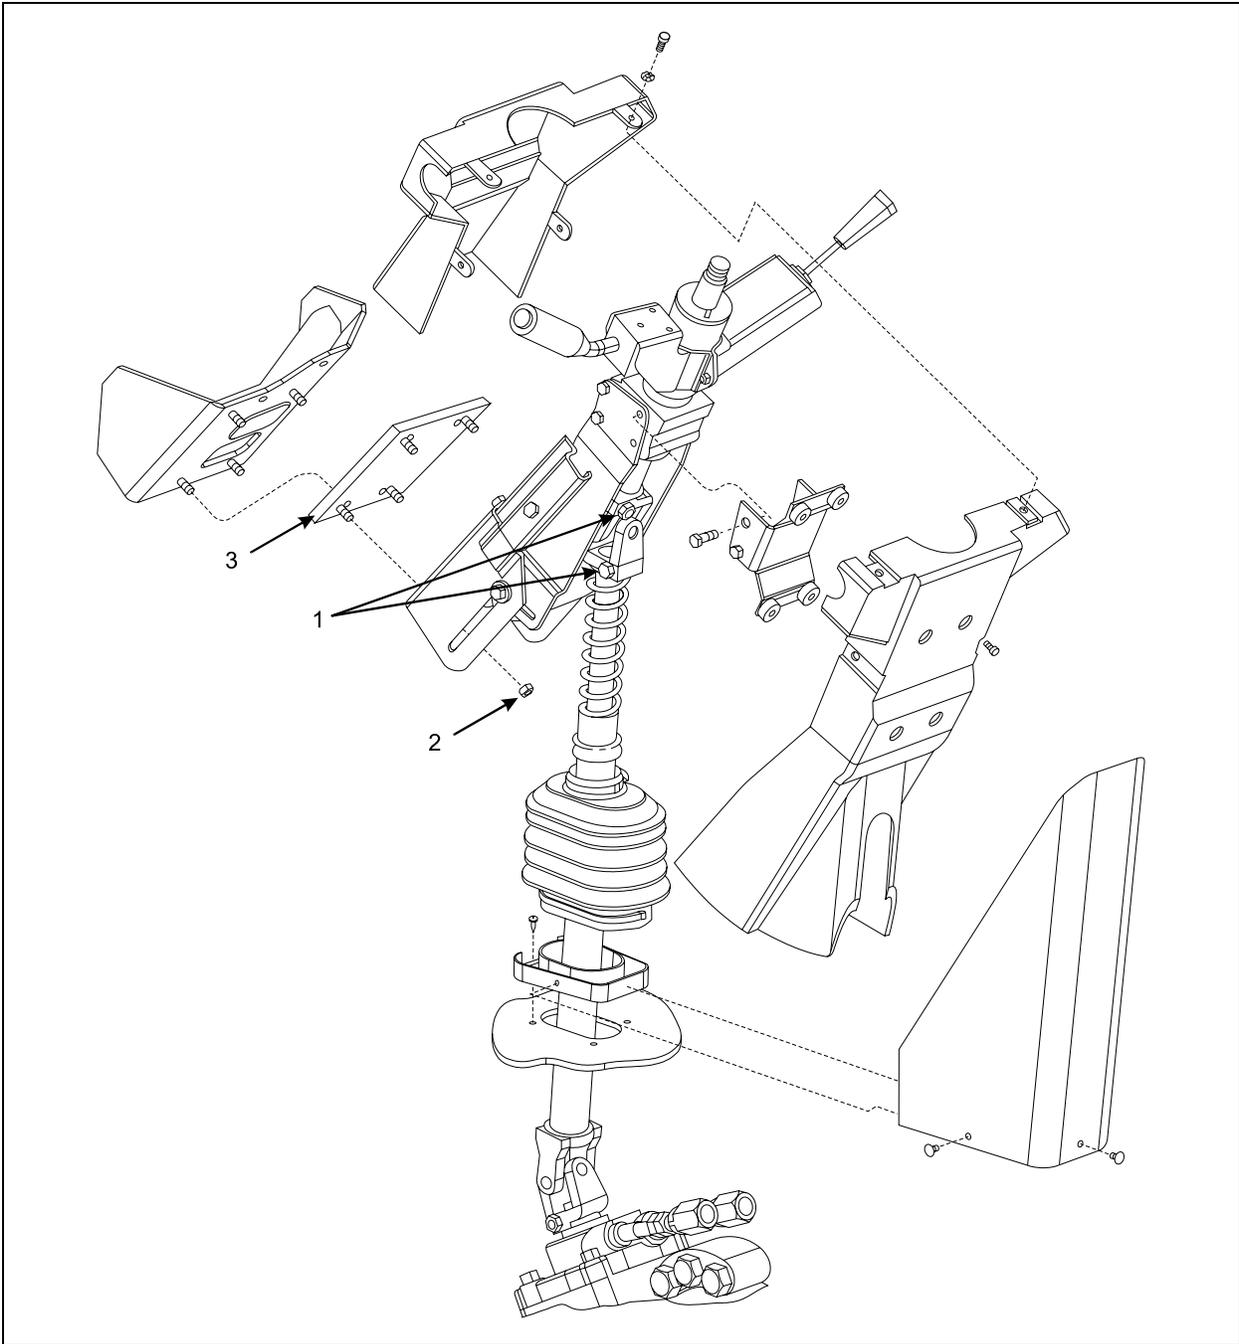

FIGURE 1: EXPLODED VIEW OF THE STEERING COLUMN AND RELATED COMPONENTS
2. If there is an adjustment plate (3, figure 1), perform part B of this bulletin.
12. Weld the adjustment plate in place in accordance with figure 1 and with the following procedure: